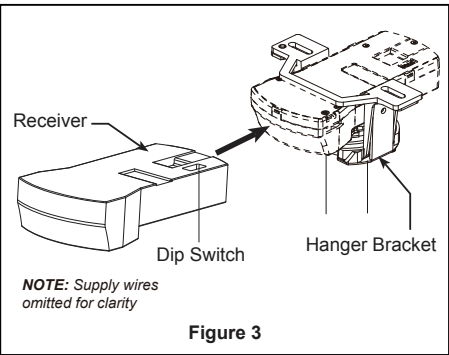

Figure 3
- ☐ 2. Slide the receiver into the hanger bracket before wiring as shown in figure 3.